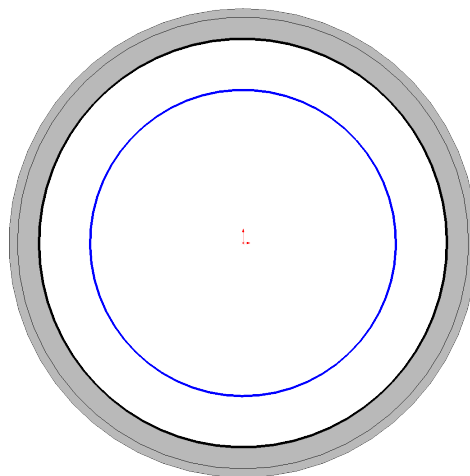

Fig. 13
Step 6. Sketch **circle** starting at the Origin , **Fig. 13**.